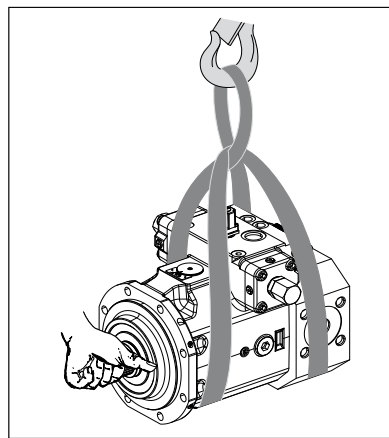

Fig. 6: Transport with lifting strap
- ▶ Place the lifting strap around the axial piston unit in such a way that it neither passes over the attachment parts (e.g. valves) nor that the axial piston unit is hung from attachment parts (see Fig. 6).